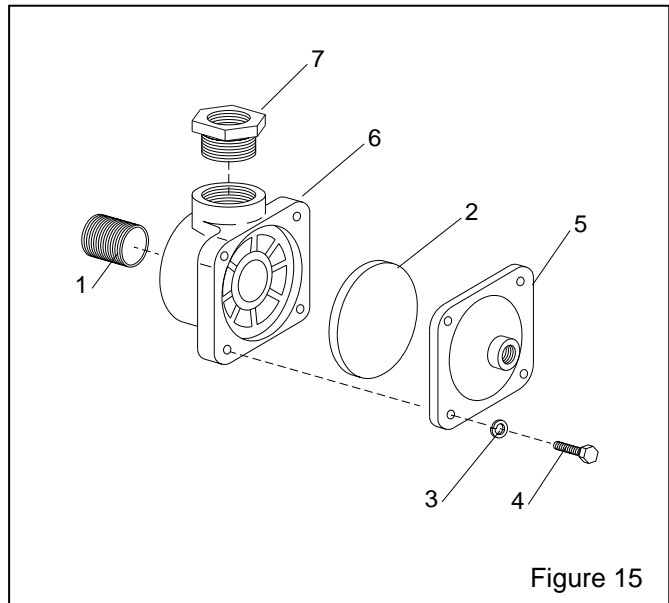

Figure 15
7.9 1" Diaphragm Outlet Valve, Figure 15